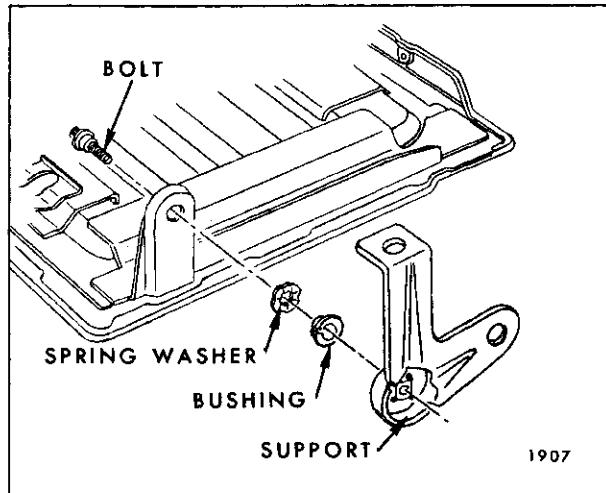

Fig. 15-58—Third Seat Cushion Panel and Support
To remove support, remove cushion from panel assembly; then remove bolt securing support to cushion (Fig. 15-58).
- To install, reverse removal procedure. If support was removed from seat cushion panel, make sure bushing and spring washer are properly installed. (See Fig. 15-58).